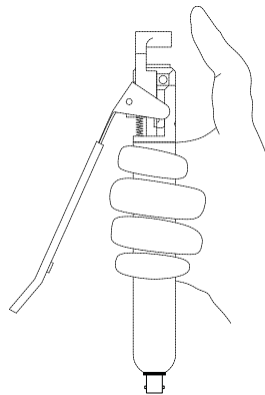

Figure 4-14, Final Assembly of Sealing Head
4. When the thumb is released, the lever should fully engage and secure the ground jaw on the RF jaw/tube assembly. See Figure 4-14, Final Assembly of Sealing Head.